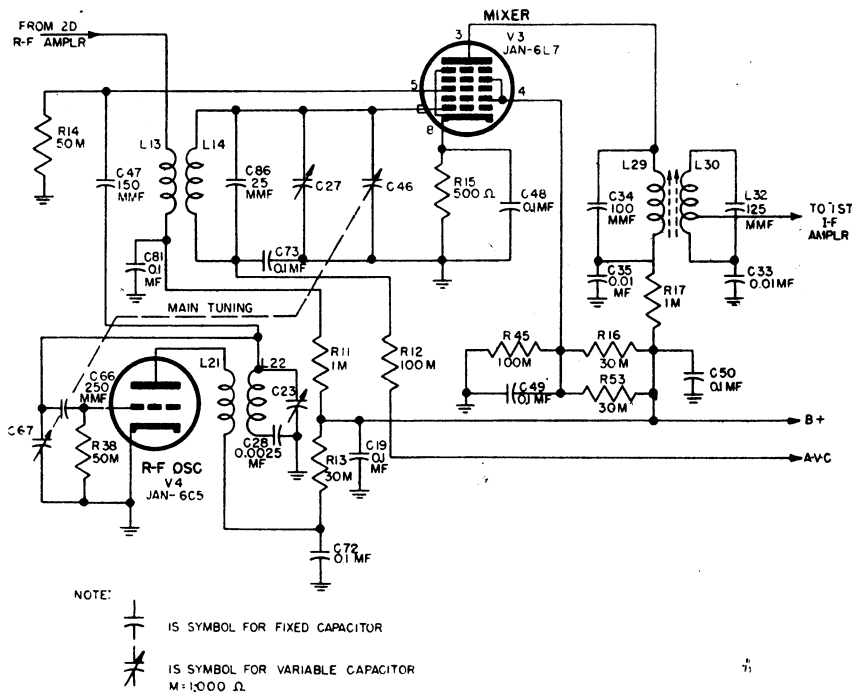

Figure 24. Mixer and r-f oscillator stages, m-f models.
b. RADIO RECEIVERS BC-314-(\*) AND BC-344-(\*). (1) A simplified schematic diagram of the mixer stage and r-f oscillator stage in the m-f receiver models is shown in figure 24. The mixer stage is similar to the mixer stage in the h-f receiver models with the exception of the tuned grid input circuit. This circuit consists of inductor L14 and capacitors C27, C46, and C86 whose functions are identical to the corresponding elements in the r-f amplifier tuned circuits in the h-f receivers.